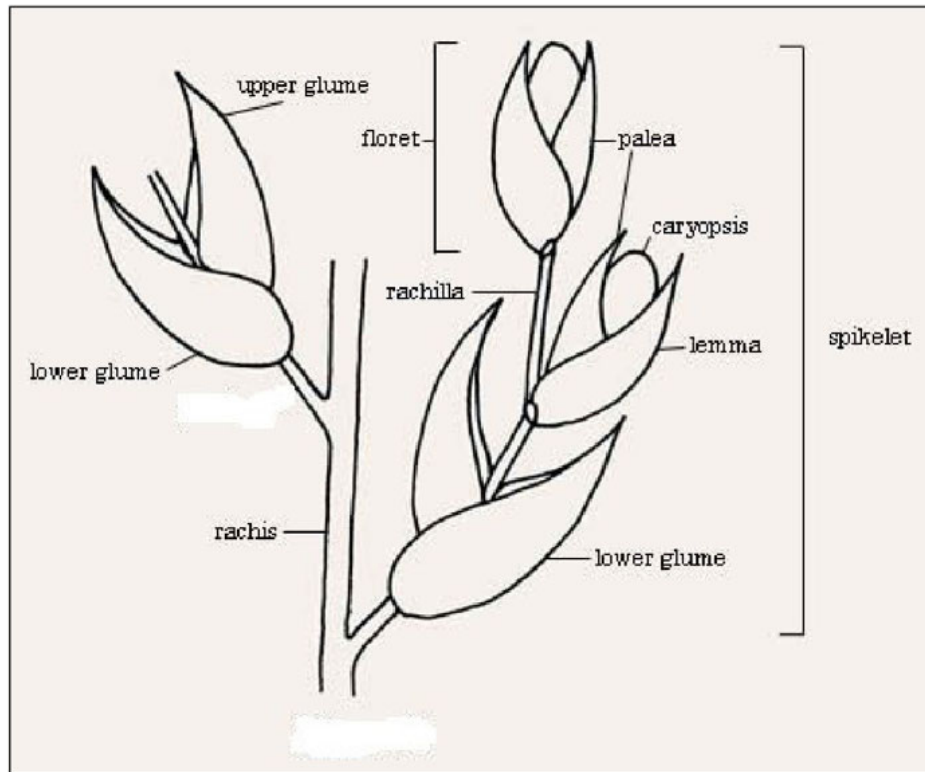

Figure 20 – Kernel development
In the reproductive phase, a grain head structure starts to take shape within the sheath (called the boot) of the flag leaf. A grain head structure comprises a main structural linear axis feature called the rachis. Branching off the rachis in alternating fashion side to side are several rachilla structural features. Each rachilla hosts florets. The rachilla-floret structures are called spikelets. Figure 20 illustrates further. (9)